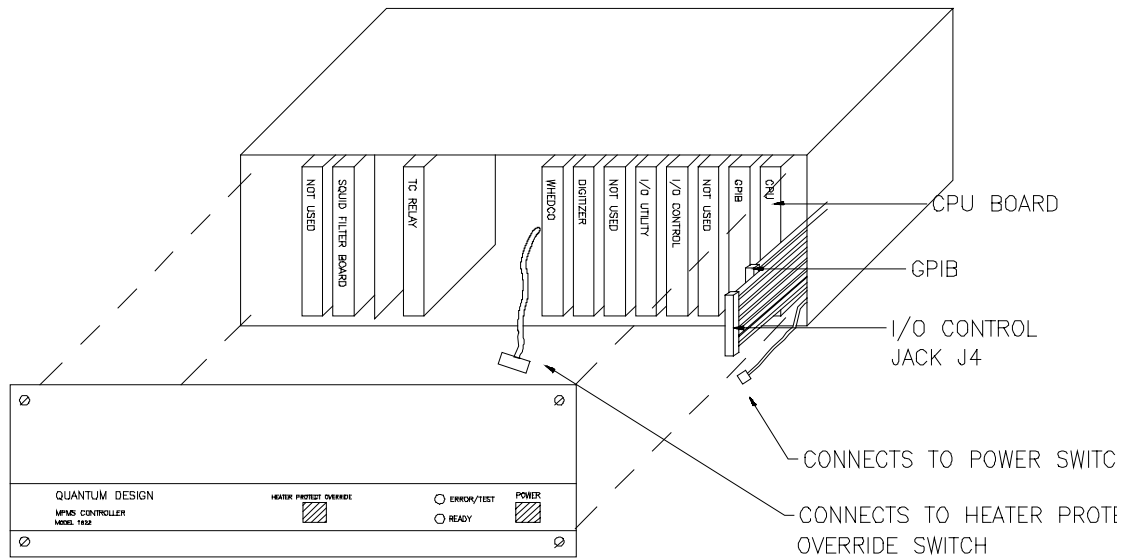

Figure 15. This 1822 controller-board layout may be slightly different for different systems, but the CPU board will always be to the far right.
1. Remove the front panel of the 1822 by removing the faceplate screws and disconnecting the power and heater protect override switches (**Figure 15**).
2. Still referring to **Figure 15**, locate the CPU board. This board will be at the right end of the board slots.